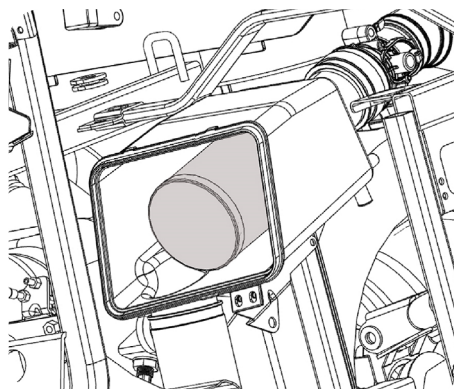

Figure 5-28
- Remove the air filter element. See Figure 5-28.